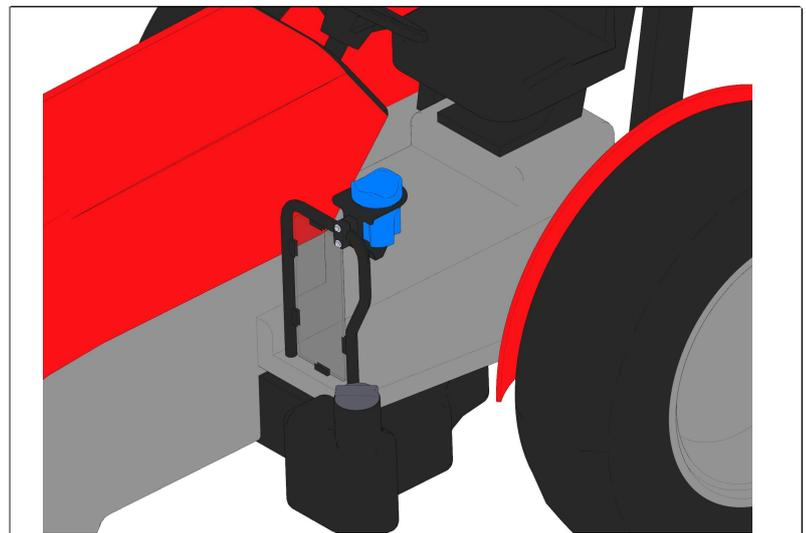

Fig. 3
3. For use with smaller beverage containers, install the supplied rubber cup holder on the inside of the cup holder bracket as shown in figure 3.